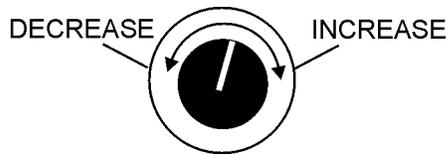

Figure 43. Voltage Adjust Control Knob
7. Use the voltage adjustment control knob (Figure 43) to increase or decrease the desired voltage.